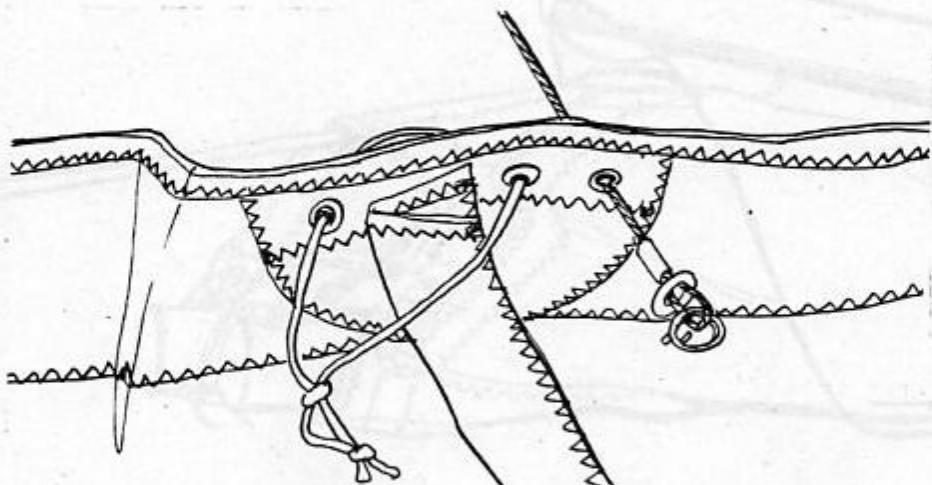

Fig. 3.1.42.
24. The washout wires are secured to the hook of the top rear wire. Push the shortest washout wire through the grommet which is free from the batten tension leech line and which is near the 5th batten pocket from the keel. Fit the washer and the safety ring over the wire loop (Fig. 3.1.42). For convenience you may lift the kingpost upright and attach the hook of the rear wire to the thimble of the top front wire.
Perform the same procedure with three longer washout wires after their installation through the free grommets near the next batten pockets from the nose (Fig. 3.1.42).